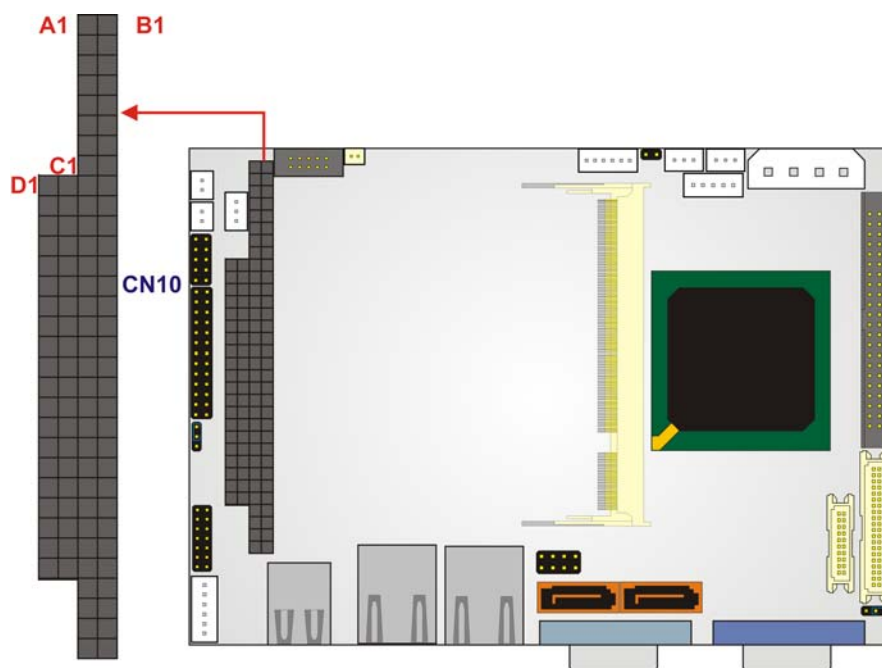

Figure 3-18: PC/104 Slot Location
**CN Location:** See Figure 3-18